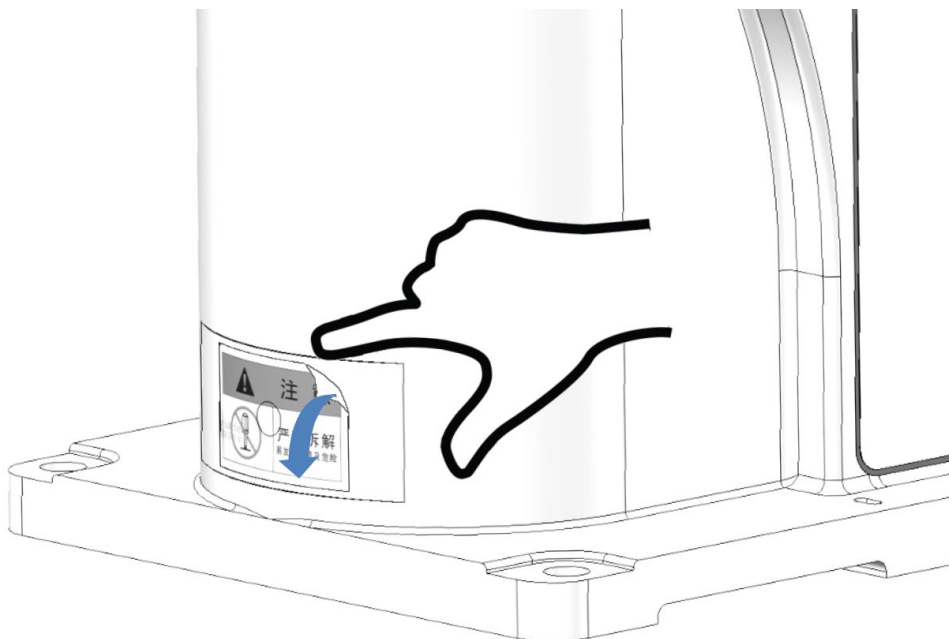

Figure 5-2 Tear off the warning sign
Step 1 Tear off the warning sign, as shown in Figure 5-2.